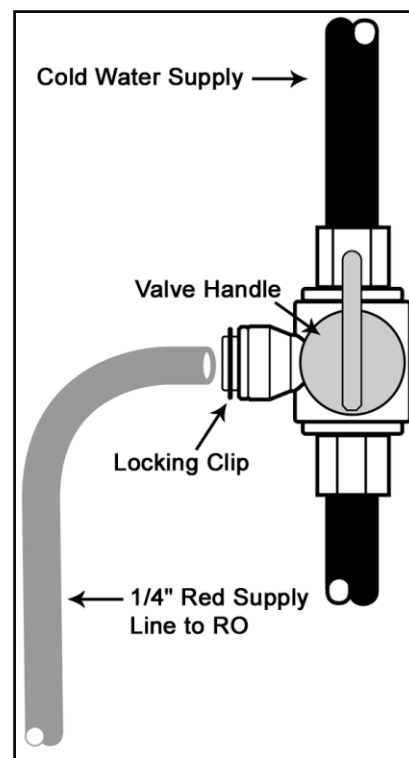

Figure 11: Feed Water Supply Valve
2. Turn off the feed (cold) water supply valve. (See Figure 11).
2. Turn off the feed water supply valve (See Figure 11).